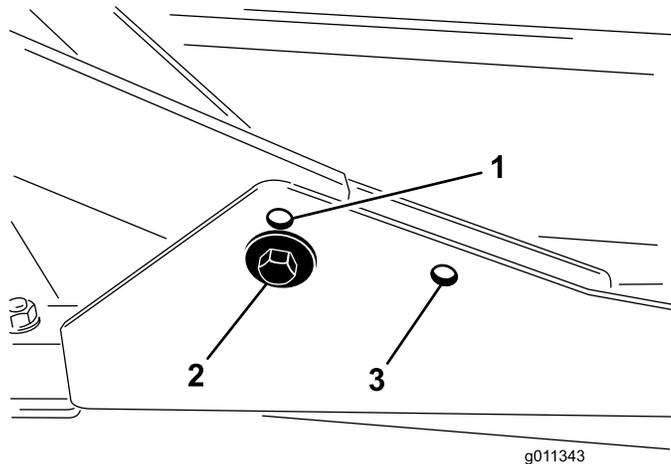

Figure 11
1. For a height of cut in the 2 to 7.6 cm (3/4 to 3 inch) range, mount the front carrier frames in the lower, front mounting holes (Figure 11).
2. For a height of cut in the 6.3 to 10 cm (2-1/2 to 4 inch) range, mount the front, carrier frames in the upper, front mounting holes (Figure 11).
For all heights of cut, mount the rear cutting unit in the rear mounting holes (Figure 11).